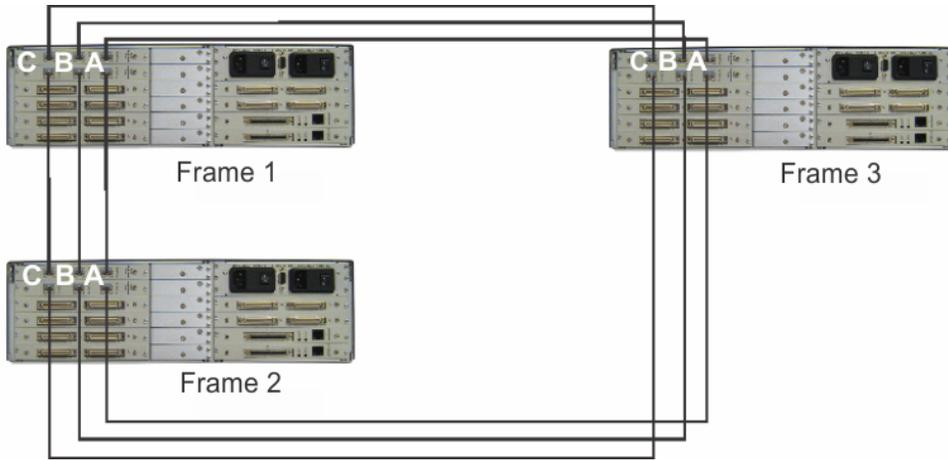
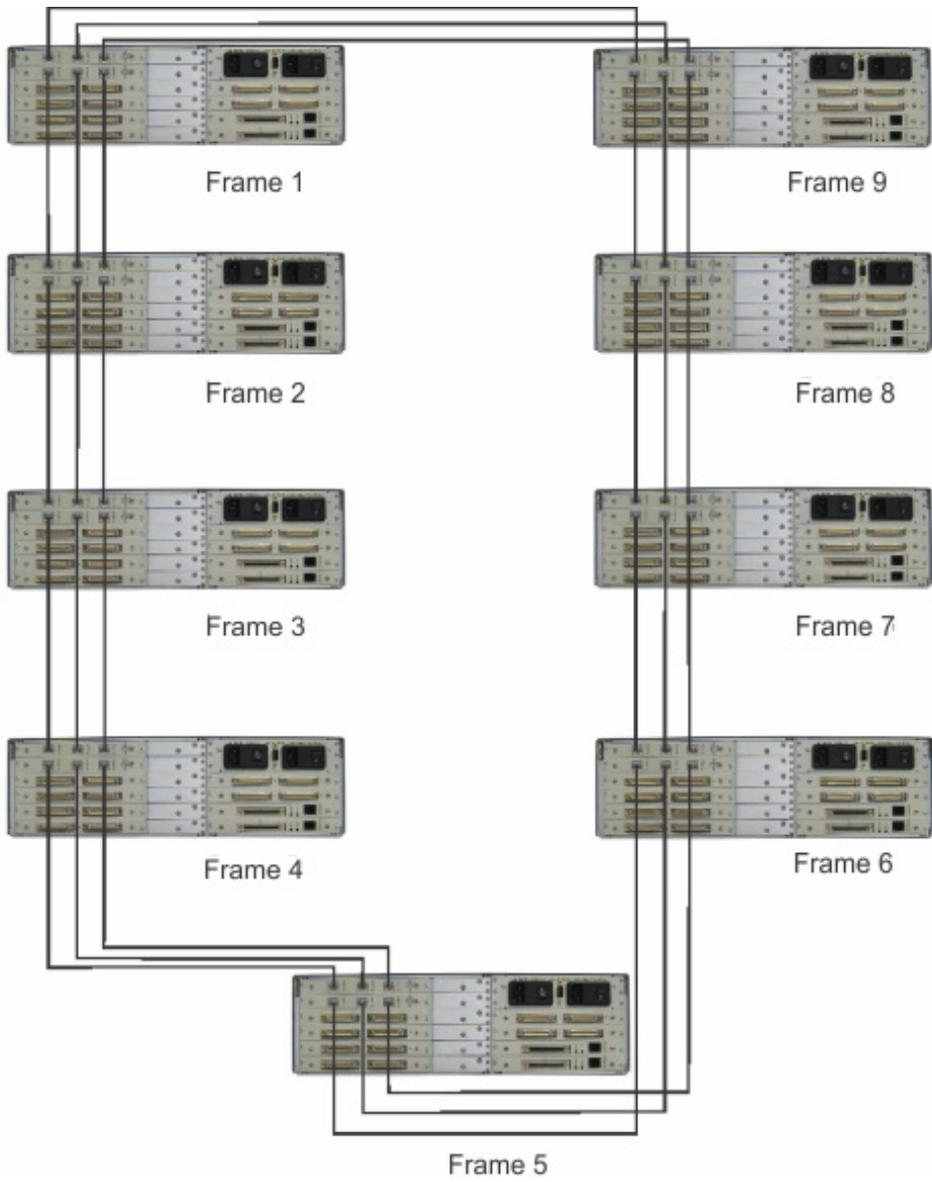

FIGURE 21. ADAM-M Three (3) Frame Ring Configuration
FIGURE 27. ADAM-M Nine (9) Frame Ring Configuration
- Using figure 21 through figure 27, cable your system for the number of frames you are using.